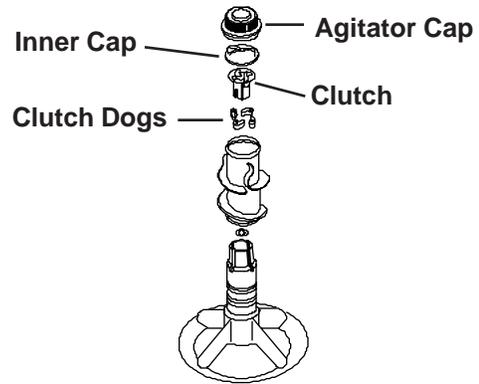

Fig. 3-15
- The Surgilator Agitator is removed by first pulling off the agitator cap and inner cap. Then unscrew the 7/16" bolt found under the cap and pull straight up on the two-piece agitator assembly. The clutch and clutch dogs that provide the Surgilator action are found in the upper portion of the agitator assembly. (Fig. 3-15)